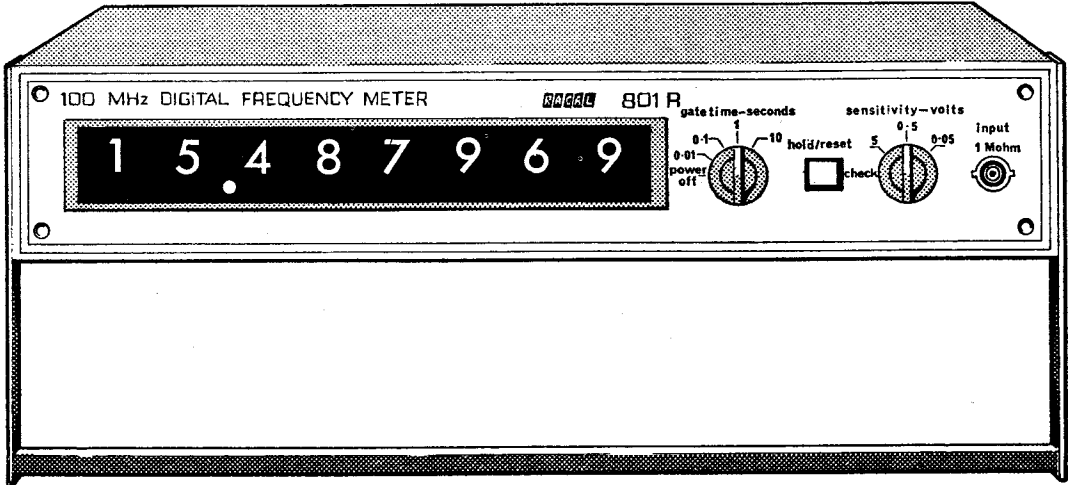

Fig. 8. Digital frequency meter
24. **Counter.** The operation of counter/timers was discussed in chapter 4 but an example of a typical modern counter instrument is illustrated in figure 8. This instrument is the Racal 801 digital frequency meter which is capable of direct measurement of frequencies up to 100MHz. The input impedance is $1M\Omega$ in parallel with 15pF so no appreciable loading of the source occurs.